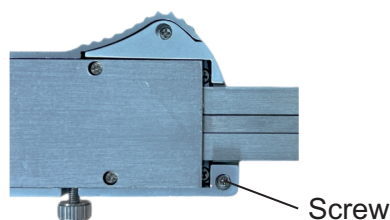

Fig. 1
- » Unscrew the screw and remove the battery cover (Fig. 1).